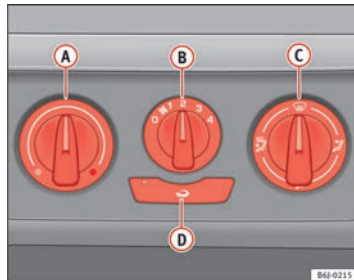

Fig. 90 Heating controls on the dash panel
- Using the controls **(A)** and **(C)** and with the switch **(B)** ⇒ Fig. 90 you can adjust the temperature, the air distribution and the blower speed.